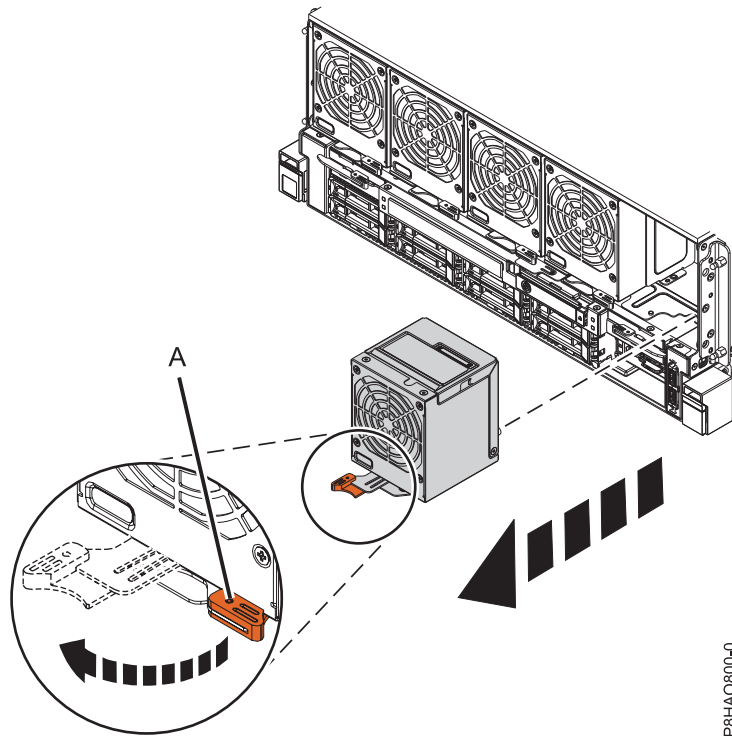

Figure 7. Removing the front fan
1. Rotate the fan handle (A) in the direction that is shown in Figure 7 on page 8 to unlock the fan from its slot.